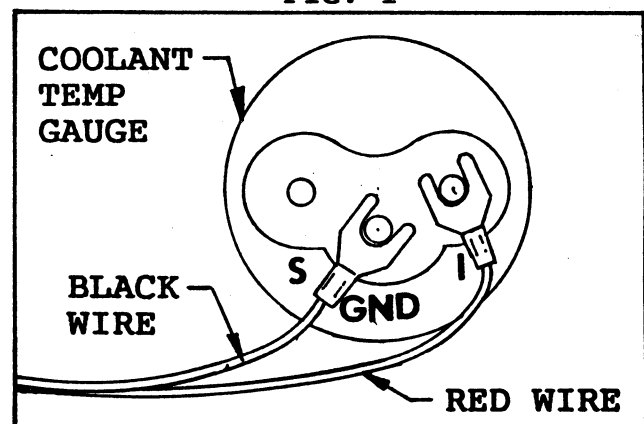

FIG. 2
■ Connect the power cable's RED wire to the "I" terminal on the coolant temperature gauge. See FIG. 2.